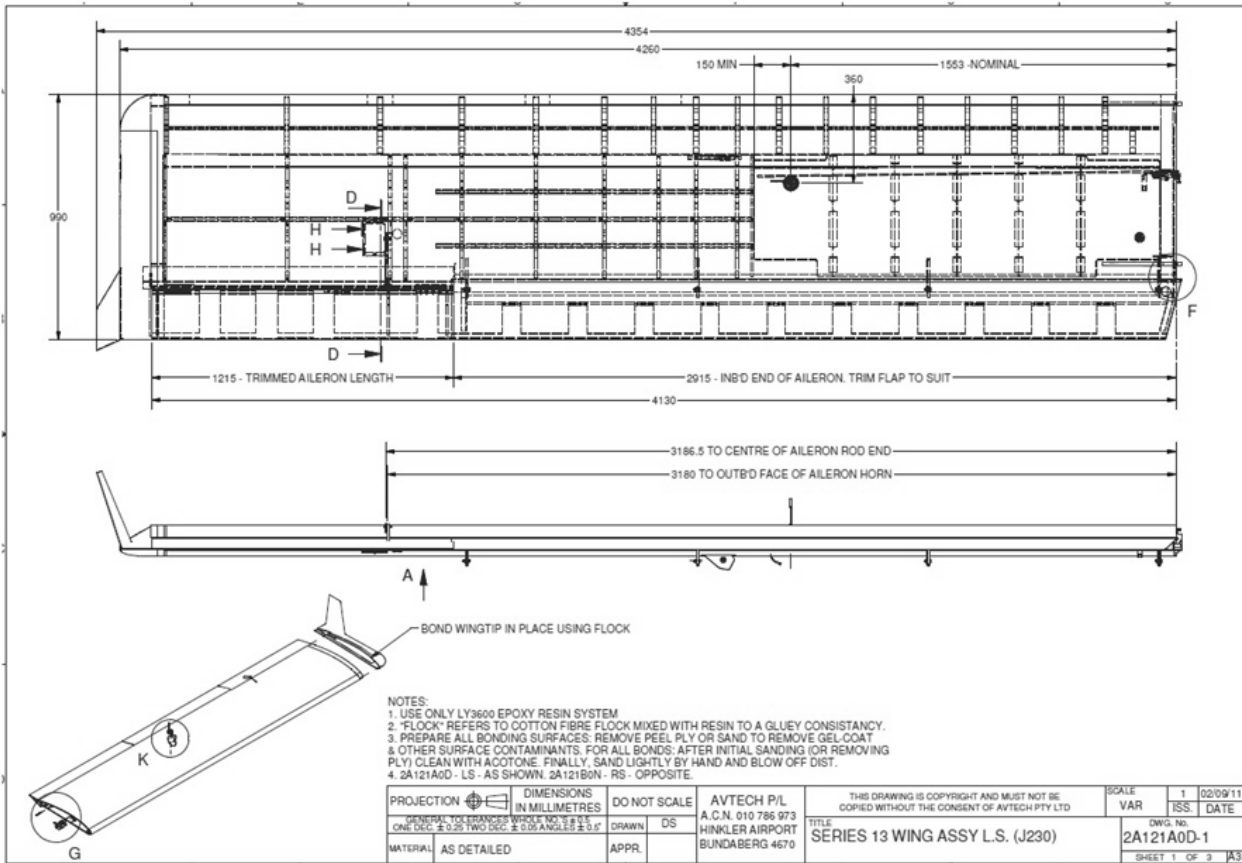
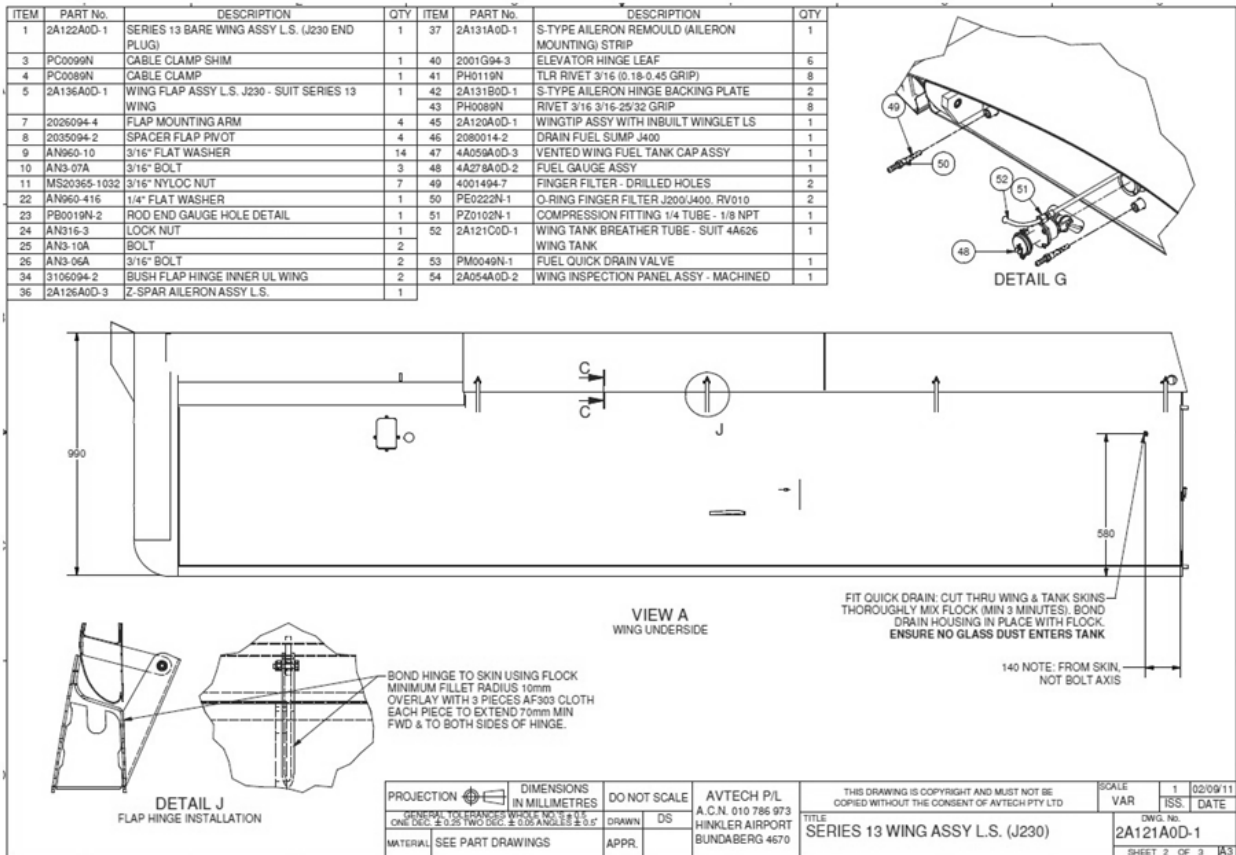
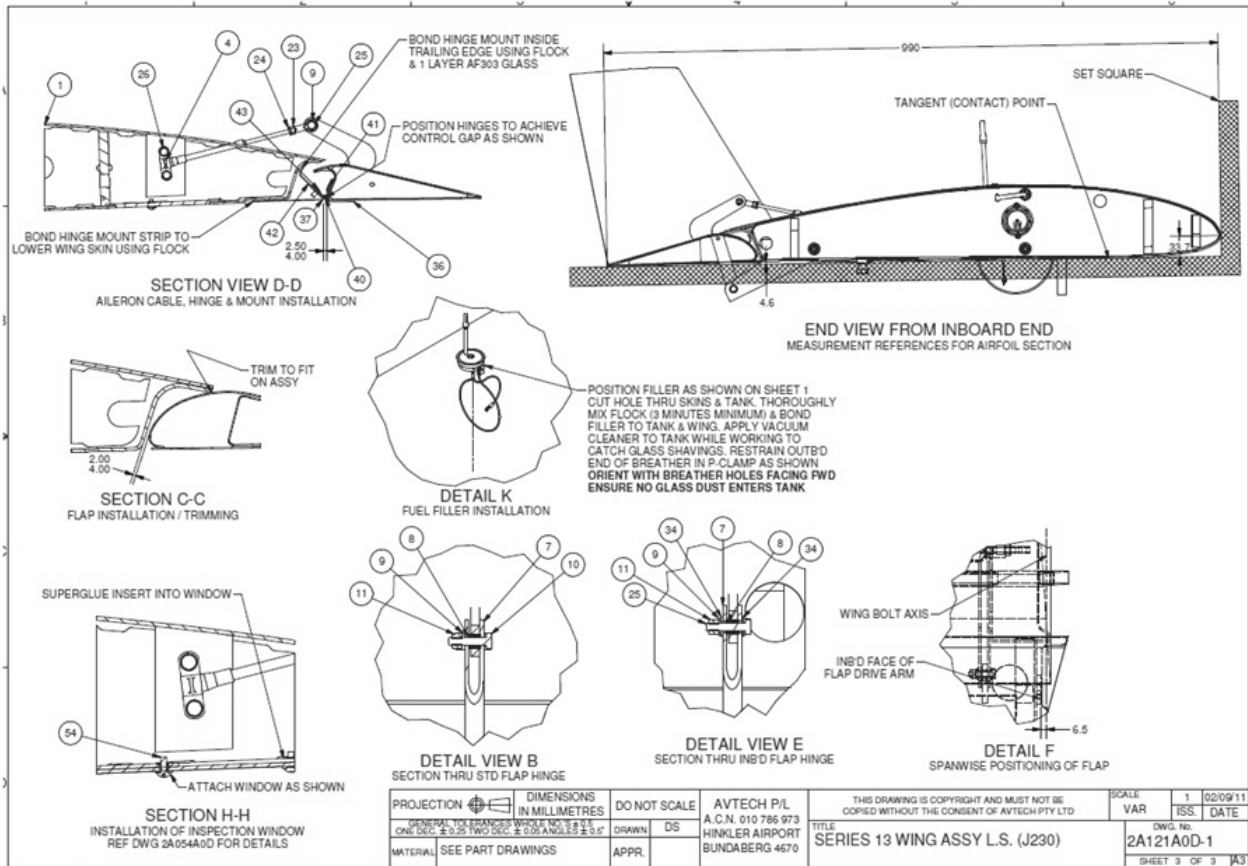

Figure 36 – J230-D Wing Assembly Sheet 1 (Ser 13)
Figure 37 – J230-D Wing Assembly Sheet 2 (Ser 13)
Figure 38 – J230-D Wing Assembly Sheet 3 (Ser 13)
- Removal of doors is achieved by removing the hinge bolts or removing the machined screws that attach the hinges to the door frame. Refer to Figure 37 below.
- The installation of the control surfaces, control cables etc for the J230-D are detailed in the drawings below. Refer to Figure 36, Figure 37 and Figure 38 for details.